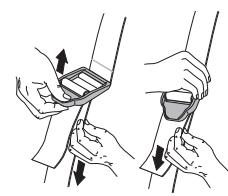

Fig. 7
4. Adjust length to fit the operator's size. Pull tab to lengthen, pull strap to shorten (Fig. 7).